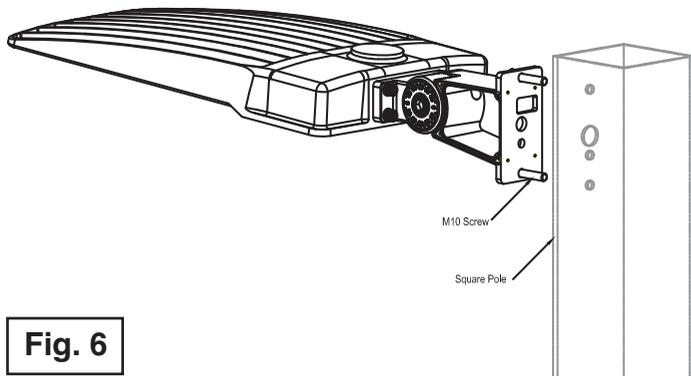

Fig. 6
4. Secure Pole mount bracket to the pole with 2 M10×50 internal Hex head bolts. (See FIG. 6) Wire the fixture using UL listed water proof wire connectors. Use the wiring diagram as shown. (See FIG. 7).